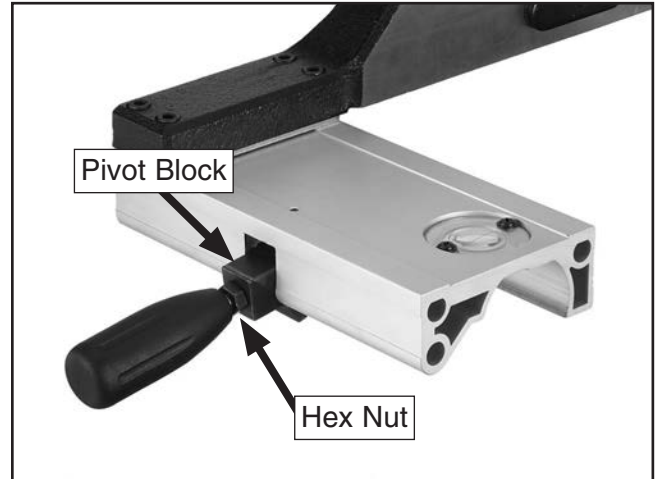

Figure 18. Handle installed on fence assembly.
19. Install the handle on the fence assembly (**Figure 18**), and tighten the hex nut against the fence pivot block to secure the handle.